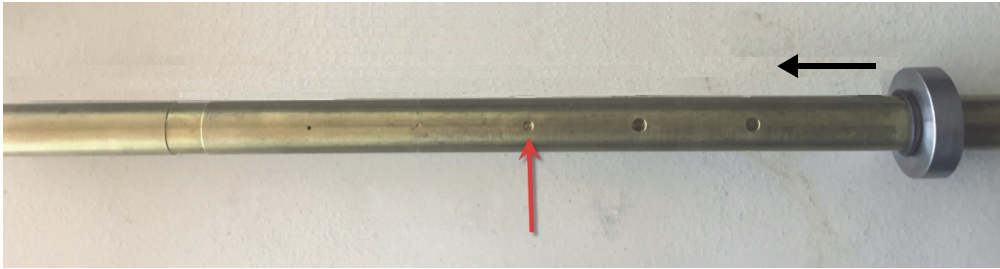

Figure 5-175 Moving the support ring
1. Slide the o-rings on the tube to allow movement of the support ring. Move the support ring over the flaw and place the o-rings against the support ring to keep it in position (see Figure 5-175 on page 252).